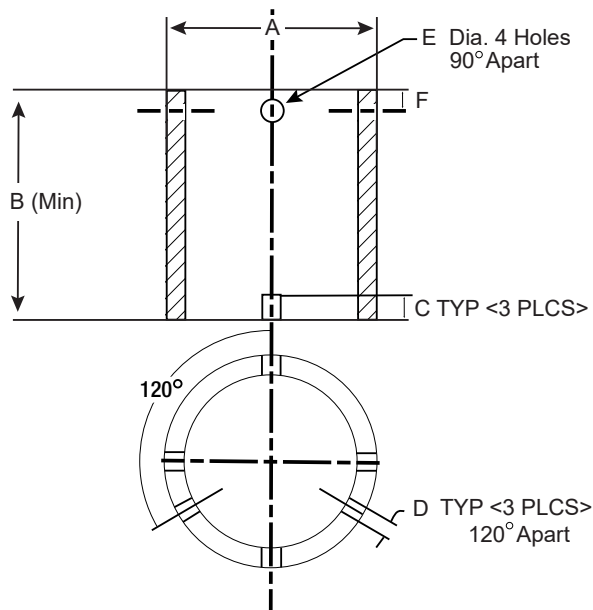
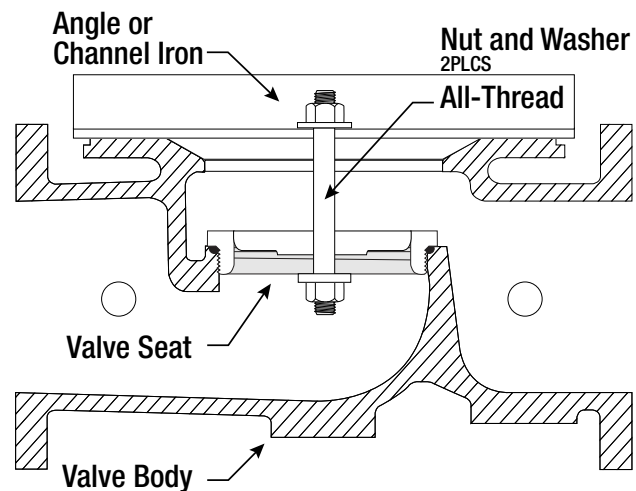

Figure 4
Figure 5
7. Inspect valve seat. If seat is not damaged, removal is not necessary. Valve seats 6" and smaller are threaded into the body of the valve and require a seat removal tool (Figure 4) (Table 1 details the tool dimensions for seat removal). Valve seats 8" and larger are held in the valve body with stainless steel cap screws. Remove seat retaining screws and lift seat straight up (Figure 5).